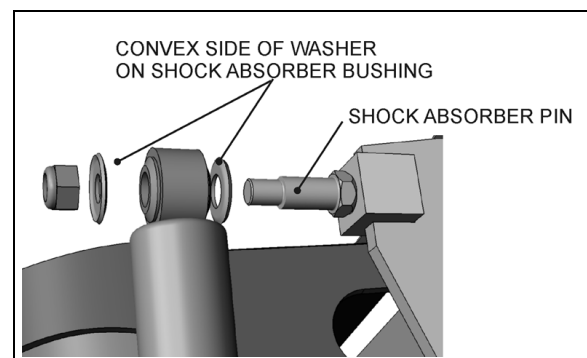

FIGURE 4: TYPICAL SHOCK ABSORBER SETUP
1. Remove nuts and washers from shock absorbers on upper and lower mounting pins, taking care to identify the inner and outer washers to ease reinstallation. Refer to figure 4 for details.
3. Place the inner washers (with washer convex side facing the shock absorber rubber bushing) on each shock absorber pin (Fig. 4).